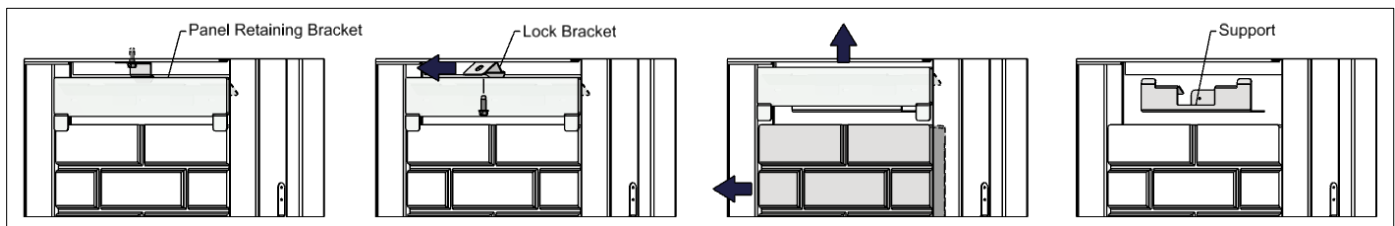

Figure 7-5: Panel Retaining Bracket Removal
- d) Remove the left/right Lock Bracket by unbolting the corresponding 3/8 Hex Bolt as shown in Figure 7-5.
- e) Lift upward the left/right Panel Retaining Bracket as shown in Figure 7-5.
- g) Reinstall the Panel Retaining Bracket by sliding it back on the Support shown in Figure 7-5.